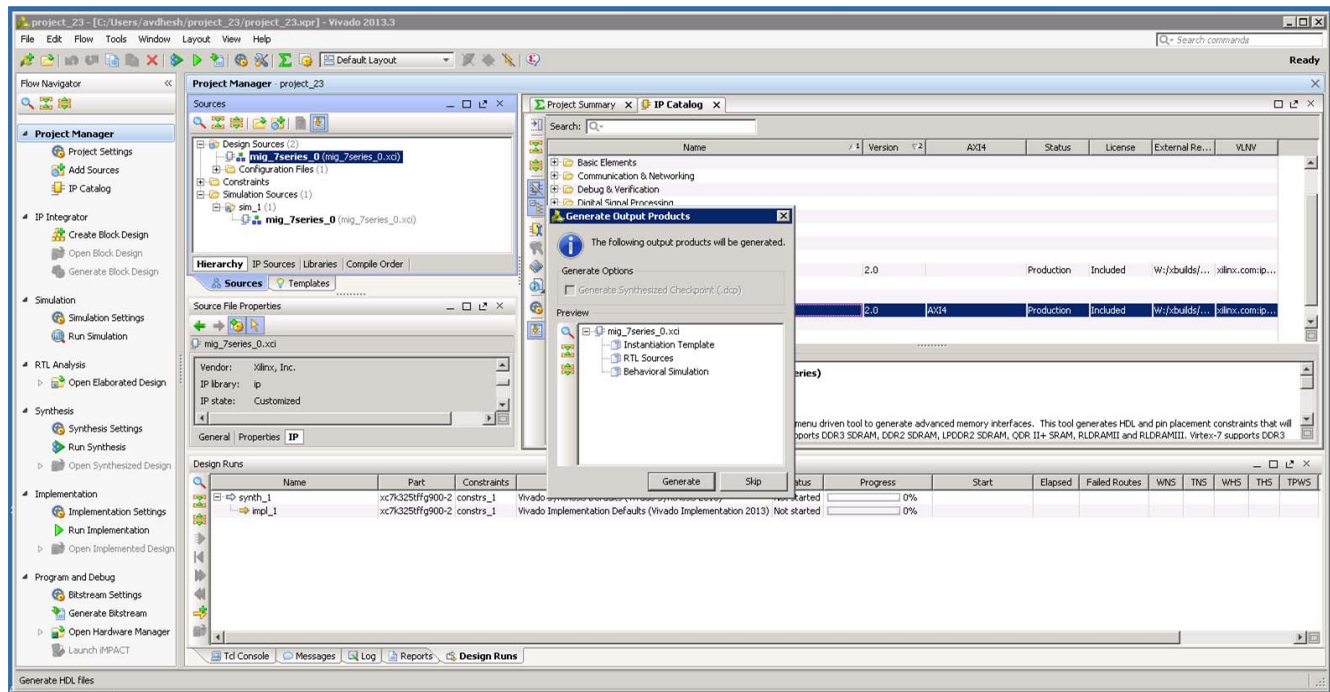

Figure 4-32: Generate Window
7. Clicking **Generate Output Products** option brings up the **Manage Outputs** window (Figure 4-32).